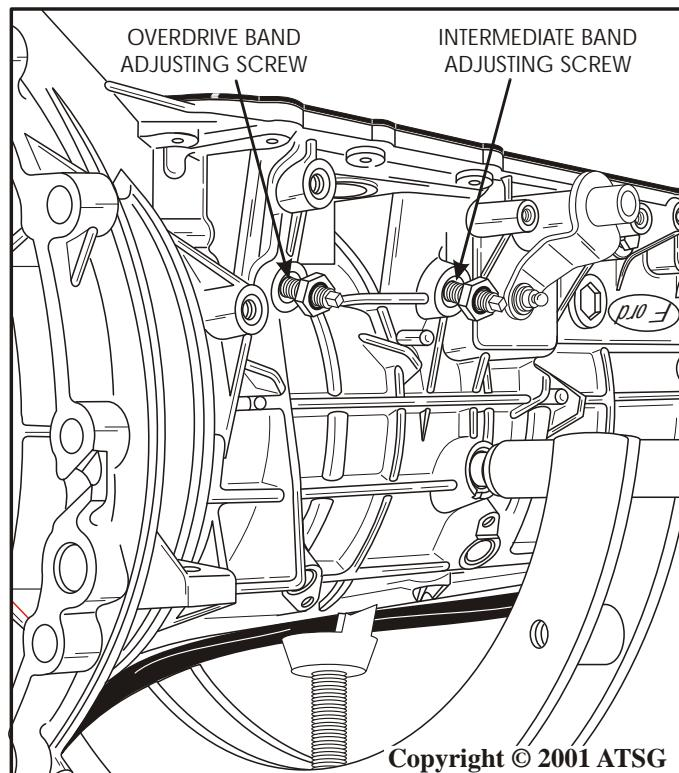

Figure 170
63. Install new locking nuts on both band adjusting screws, using care not to let the adjusting screw come out, so that the band anchors will not fall out and into transmission (See Figure 170).
64. Adjust the overdrive band by turning adjusting screw in while holding the lock nut. Torque the adjusting screw to 14 Nm (10 ft.lb.) and then back out *exactly* 2 full turns for W/S models in trucks and 1-1/2 turns for S models in cars. Refer to Figure 170.
65. Adjust intermediate band by turning adjusting screw in while holding the lock nut. Torque the adjusting screw to 14 Nm (10 ft.lb.) and then back out *exactly* 2 full turns for W/S models in trucks and 1-1/2 turns for S models in cars. Refer to Figure 170.